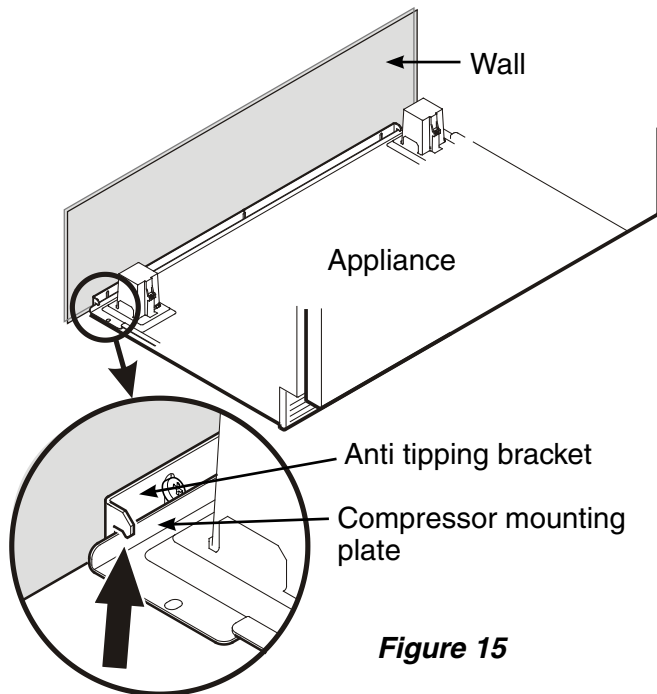

**Figure 14**
2. Insert the water supply line into its intended opening at the back of the appliance (**Figure 14**).